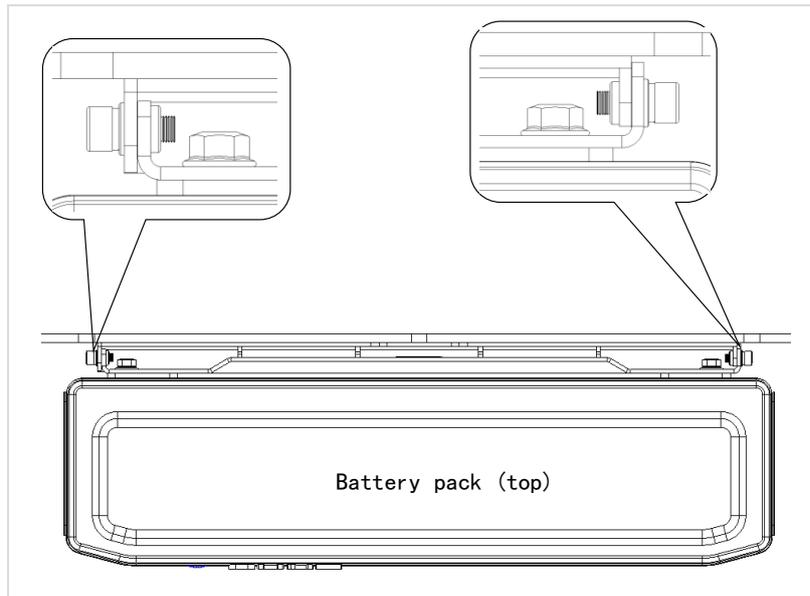

Figure 4-15
4. Tighten M5×12 screws (L) on both sides as shown in Figure 4-15: